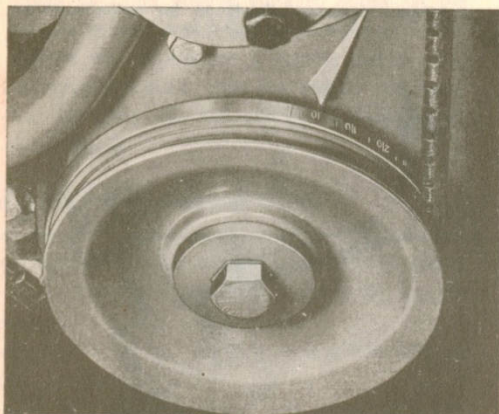

Fig. 1-65. Graduations for timing setting
2. Turn the engine over so that the pointer at the front (Fig. 1-65) is opposite 5° before TDC. Fit the distributor but do not tighten it in position.